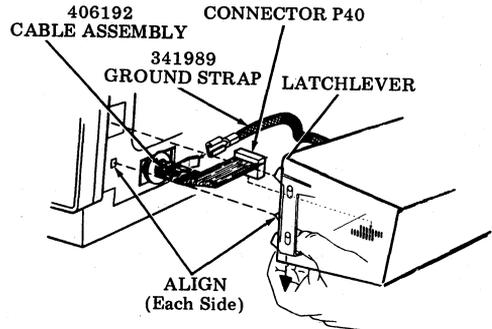

Fig. 28—Opcon Assembly
7.01 Opcon Assembly for Tabletop Arrangements (Fig. 28):